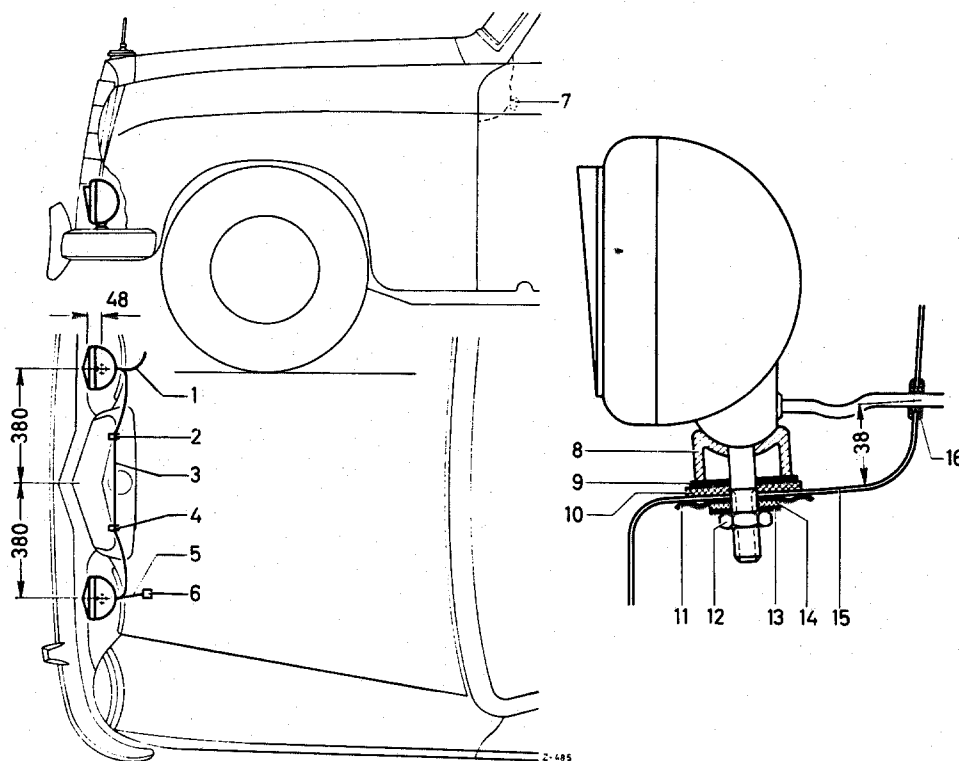

Fig. 82 — 19/1
- For fixing the two fog lights, drill a hole 12.5 mm diameter on each side, according to the dimensions given (see Fig. 82 — 19/1).
- Bore a 10 mm diameter hole in the panelling on each side for the cables (15), according to the dimensions given, and fit a rubber grommet (16) in each hole.
- Fit the fog light or fog lights, using the specified washers and rubber washers (see Fig. 82 — 19/1).
- Pull Cable Sheaf **24** (1) of the main wiring harness for the fog light, right, through the right rubber grommet (16), rubbing a little tallow on the outside of the insulation sleeve.